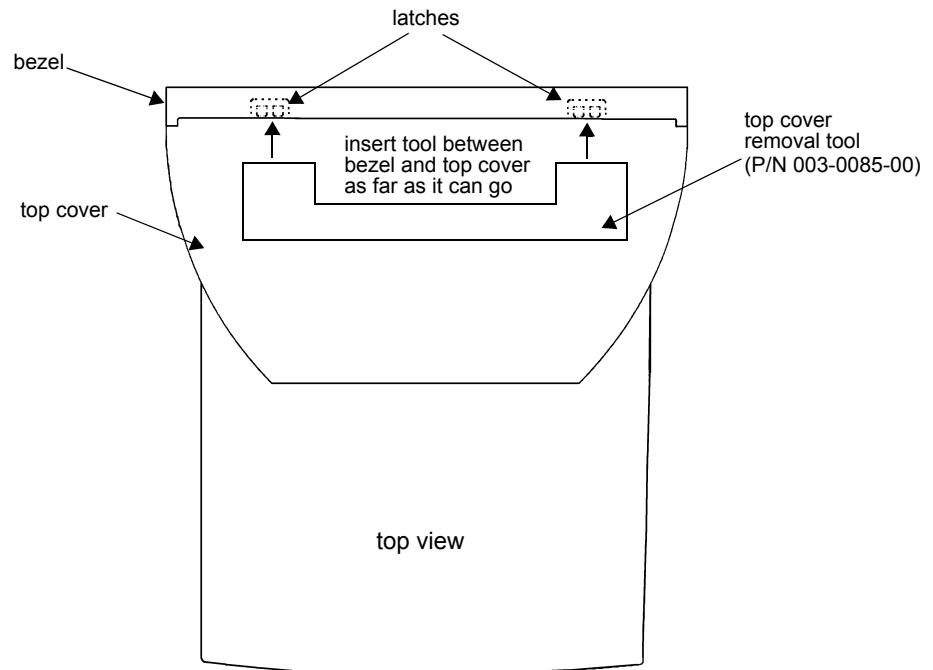

Figure 4-3: Top cover removal
- a. Locate the two latches that hold the bezel and top cover together (refer to *Figure 4-3* on page 4-13).
- b. Position the top cover removal tool next to the two latches (refer to *Figure 4-3* on page 4-13).